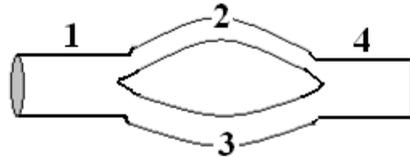

Fig. 1.
7. Find the volume of a Newtonian fluid flowing through a system of rigid cylindrical tubes in 5 minutes (see Fig. 1), if the fluid current is laminar and the dynamic viscosity coefficient is $3.14 \text{ mPa} \cdot \text{s}$, $r_1=2\text{mm}$, $r_2 = r_3 = r_4 = 1 \text{ mm}$, $l_1= 2 \text{ cm}$, $l_2 = l_3 = l_4 = 4 \text{ mm}$. (r_1, r_2, r_3, r_4 are the radii of the tubes, l_1, l_2, l_3, l_4 are their lengths, respectively), the pressure drop in this system was $2 \cdot 10^3 \text{ Pa}$.